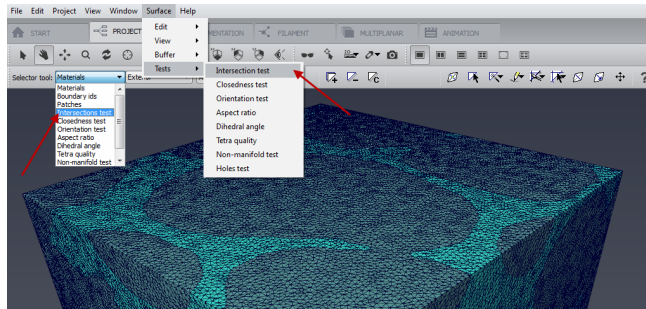

Figure 5.18: *Surface Editor* intersection testing submenu.
- Open the *Surface* menu and in the *Tests* submenu, select *Intersection test*. You can alternatively pick the *Intersection test* in *Selector tool* of the tool bar (see Figure 5.18).